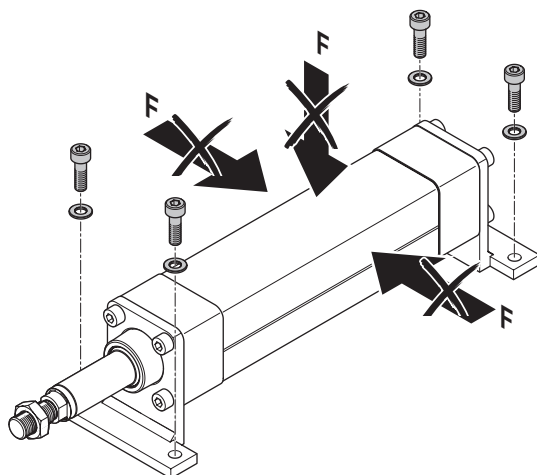

Fig. 12: Distortive stress to cover/base and housing
- Mount the EMC so it is free of distortive stress ➔ Fig. 12.